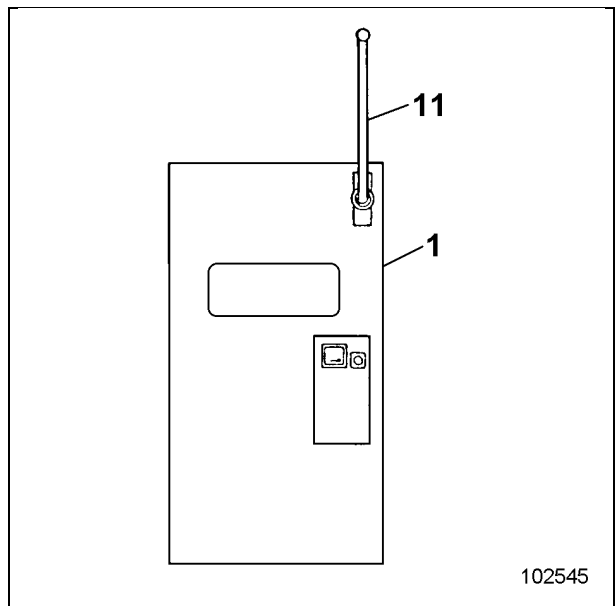

Fig. 4
- circuit breaker (1, Fig. 4) ON.